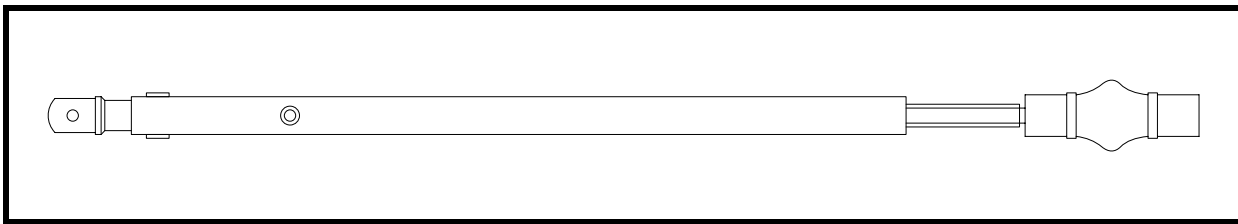

Figure 40
- ❑ Install the screwjack sleeves on the screwjacks. See Figure 40. Screw the screwjacks all the way so that they bottom on the end of the universal joints. Be careful to keep the left and right sides properly identified.